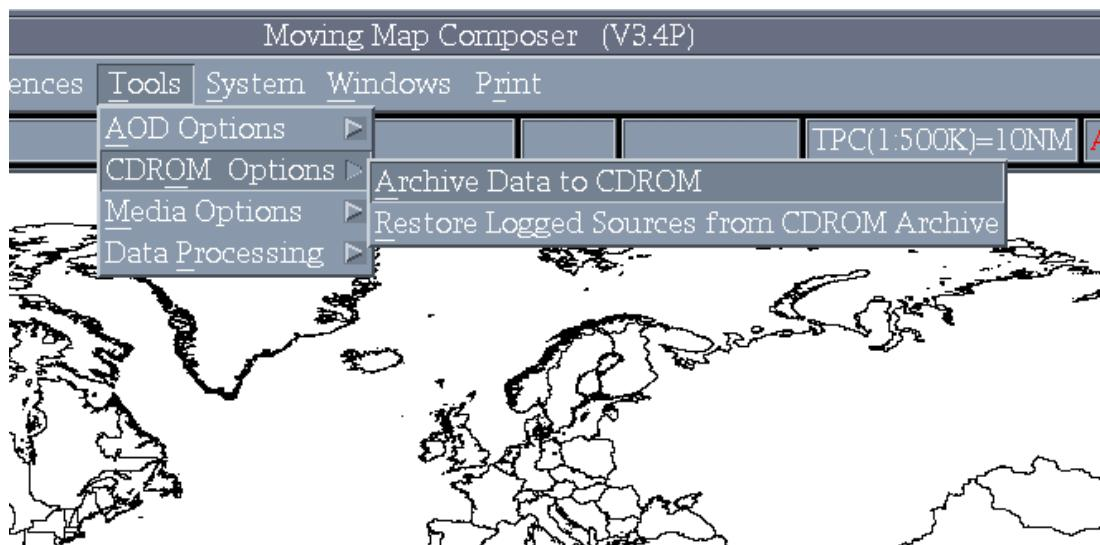

Fig. 8 – CDROM Options Menu
- On the main menu, click on *Tools*, *CDROM Options*, and *Archive Data to CDROM* (Fig. 8).
- i. On the main menu, click on *Tools*, *CDROM Options*, and *Archive Data to CDROM* (Fig. 8).